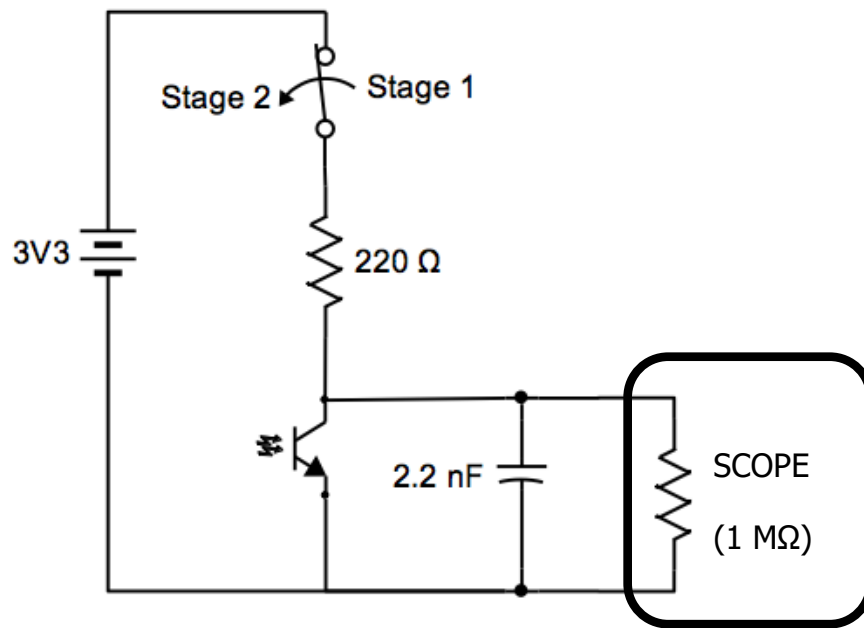

FIGURE 3-12: Simulation of phototransistor circuit (stage 1 and stage 2)
Step 1: Construct the circuit as shown in Figure 3-12. You'll be using an on-off SPST (Single Pole Single Throw) toggle switch for this circuit. See Figure 15 below for its setup: